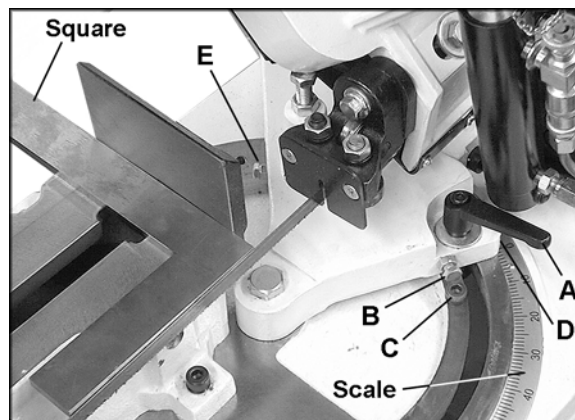

Figure 10
1. Loosen the handle (A, Figure 10) and make sure the bow is swiveled enough that the stop screw (B, Figure 10) is contacting the fixed screw (C, Figure 10).
2. Place a machinist's square on the bed against the blade and the fixed jaw of the vise, as shown in Figure 10. The square should lie along the entire length of the jaw and blade without a gap.
3. If the vise and blade are not square, loosen the hex nut on the stop screw (B, Figure 10) with a 10mm wrench and rotate the stop screw as needed until the vise and blade are square whenever the stop screw is contacting the socket head cap screw (C, Figure 10).
- If the vise and blade are square but the pointer (D, Figure 10) is off slightly, loosen the screw and adjust the pointer until it lines up with zero on the scale. Tighten the screw.
NOTE: The handle (A, Figure 10) is adjustable. Simply lift up on the handle and rotate it on the pin. Release the handle, making sure it seats itself properly on the pin.
If adjustment is needed, loosen the hex nut on the 45° stop (E, Figure 10) and rotate the screw as needed with a 10mm wrench. When satisfied, tighten the hex nut.
6. Remove the socket head cap screw (C, Figure 10) to allow the bow to swivel.